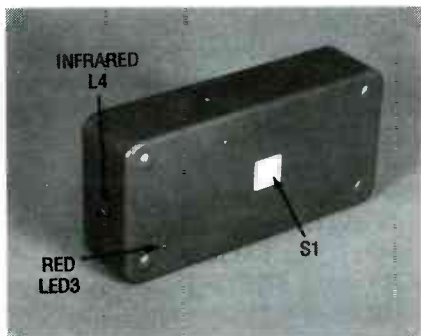
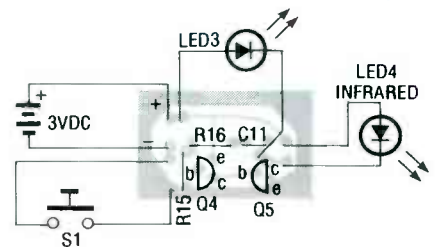

FIG. 6—YOU CAN ASSEMBLE THIS IR transmitter even smaller than the author's model. This project case is about the same size as a regular remote control.
FIG. 7—THE IR-TRANSMITTER PC board should take you about 5 minutes to stuff. Instead of using LED3 as an indicator, try a low-voltage buzzer.
1. Figure 6 shows what the IR transmitter should look like. Its assembly is uncomplicated, and any small project box can be used to house the transmitter. Drill a hole in the box's front just large enough for IR LED4 to peek through; then mount the circuit board, shown in Fig. 7, and position LED4 in the whole you just drilled. The flat side of LED4 is connected to C11. The optional indicator LED5 is located in the corner, and can be fixed securely in place with a small drop of *Krazy Glue*.